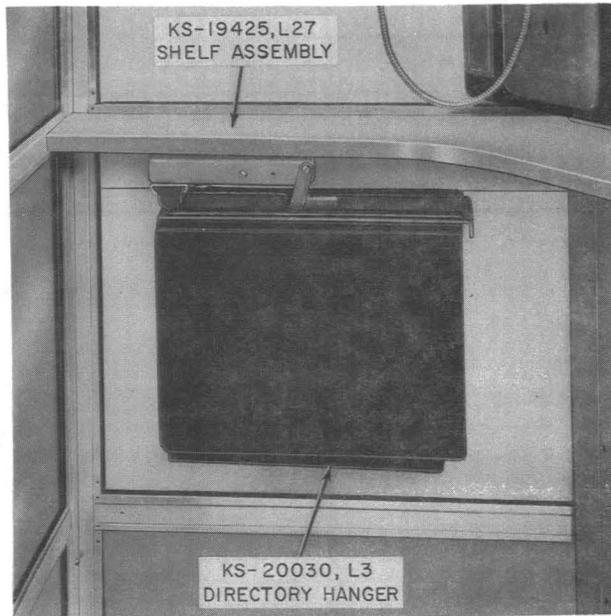

Fig. 10—KS-19425, List 27 Shelf Assembly With KS-20030, List 3 Directory Hanger
2.17 Refer to Fig. 10 through 12.